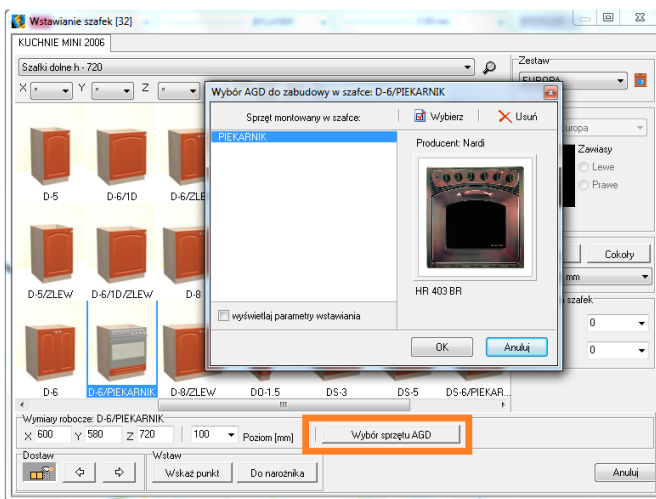

Fig. 142 – selection of household appliances for the cabinet
Some of the cupboards are designed to be used with the household equipment. Each such cupboard has a special marking to inform you what type of equipment it is designed for (e.g. ZLEW – for sink, PIEKARNIK – for oven), and a special button **Domestic eqp. selection** will appear (Fig. 142). When you click it, a new window will open – **Selection of built-in equipment for cabinets**, in which you can access a list of devices available for this type of cabinet (Fig. 142). In tall cabinets it may be possible to insert more than one model of household equipment (e.g. oven and microwave).
- Click the **Domestic eqp. selection** button and then press the **Select** button in the equipment management window (Fig. 142) to go to the **Household equipment** module;